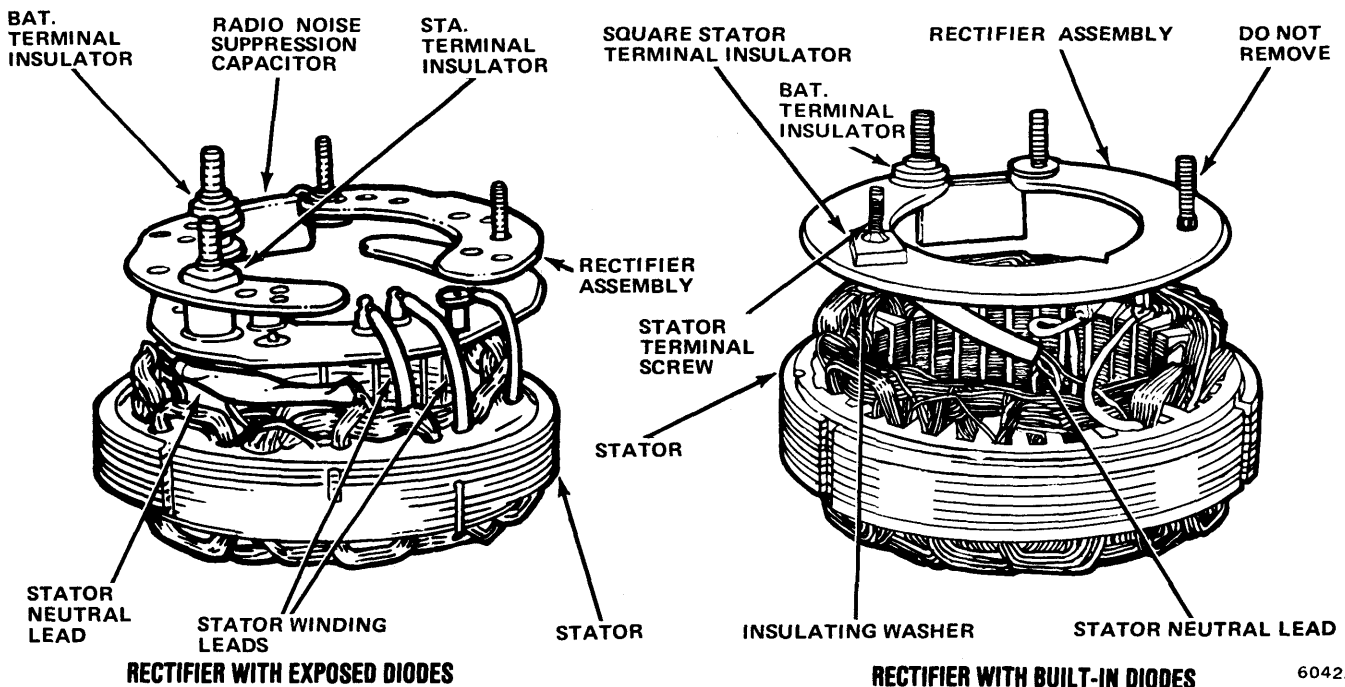

Fig. 3-21 Stator and Rectifier Assemblies
(7) Position brush holder assembly in rear housing and install mounting screws.
(8) Wrap three stator winding leads around circuit board terminals.
(9) Install stator neutral lead on rectifier with exposed diodes by inserting stator terminal through neutral lead, dished washer and rectifier. Turn stator terminal counterclockwise 1/4 turn to lock.
(10) Install stator neutral lead on rectifier with built-in diodes by inserting stator terminal through neutral lead, insulating washer and rectifier. Align serrations of stator terminal and rectifier hole and press terminal into rectifier.
(11) Install radio noise suppression capacitor on rectifier terminals (fig. 3-21).
(12) Install BAT terminal insulator and STA terminal insulator (fig 3-21).
(13) Position stator and rectifier assembly in rear housing.
(14) Position STA (black), BAT (red), and FLD (orange) insulators on terminal bolts. Install retaining nuts.
(15) Position rear housing and stator assembly over rotor and align scribe marks made during disassembly.
(16) Seat machined portion of stator core into step in both end housings.
(17) Install housing through-bolts.
(18) Remove brush-retracting toothpick. Put a dab of waterproof cement over hole to seal it.